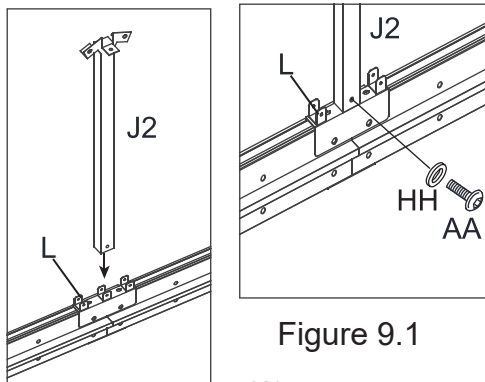

Figure 9.1
9.1 Insert the Vertical Brace (J2) into the Top Beam Guard (L), connect them with Bols (AA) and Washers (HH).See Figure 9.1.